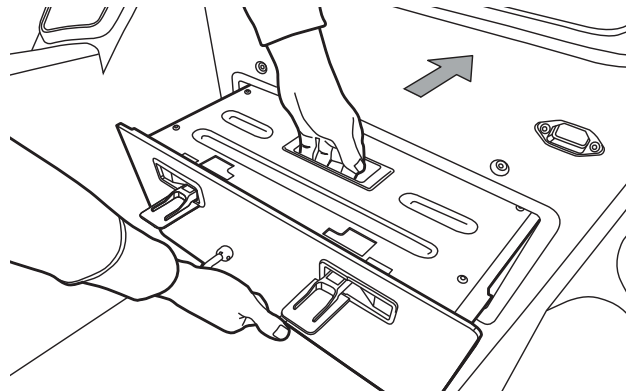

Figure 35: Slide the Battery Module into the SE-3 Patroller
2. Make sure the latches are configured as in **Figure 35**.